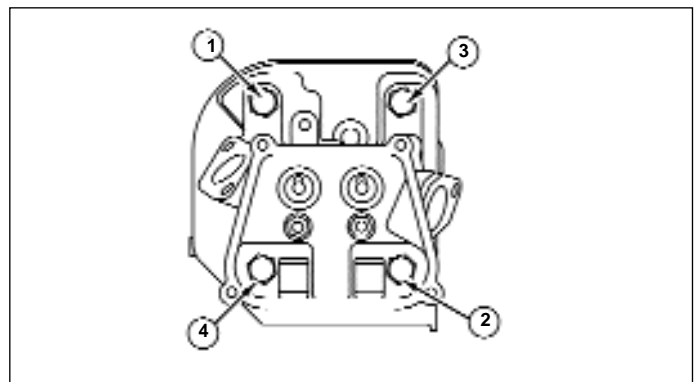

Figure 95 - Torque Pattern, Cylinder Heads
3. Torque screws as listed in Table 9 Page 7-40 in sequence that cylinder head screws are numbered on cylinder head, or as shown in Figure 95.